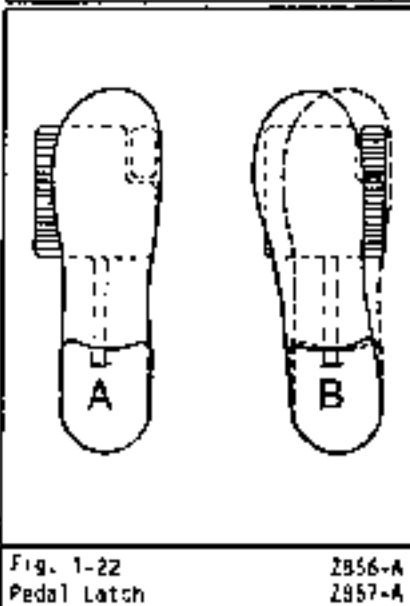

Fig. 1-22
- During normal operations, the operator's foot should be in position "A" as in Fig. 1-22.